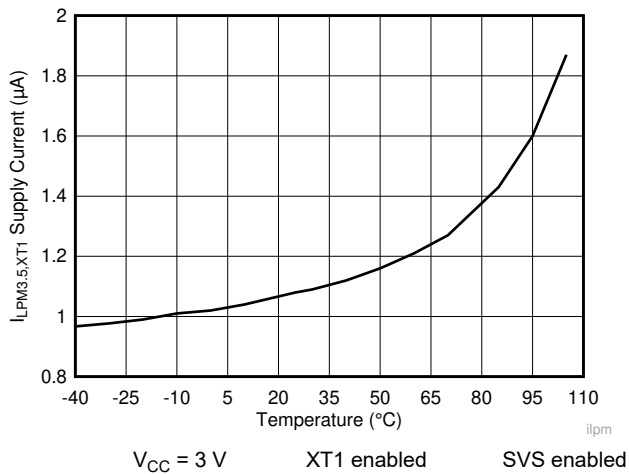

Figure 8-3. LPM3.5 Supply Current vs Temperature
| $I_{LPM3.5, XT1}$ | Low-power mode 3.5, 12.5-pF crystal, includes SVS ^{(1) (2) (3)} (also see Figure 8-3) | 3 V | 0.60 | | 0.66 | | 0.96 | | 1.41 | 2.95 | μA |